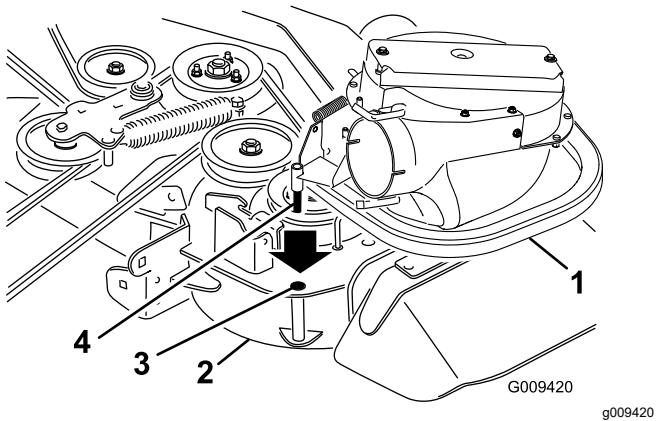
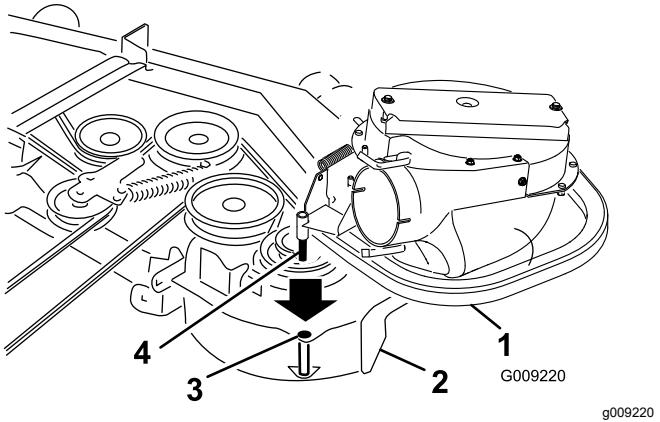

Figure 16
Figure 17
2. Slide the blower-assembly peg into the pivot hole (Figure 16 or Figure 17).